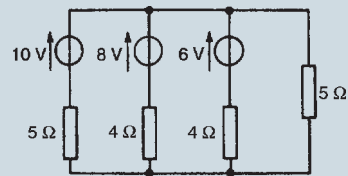

Figure 15.80
- For the network shown in Fig. 15.80, convert each branch containing a voltage source to its Norton equivalent and hence determine the current flowing in the 5Ω resistance.